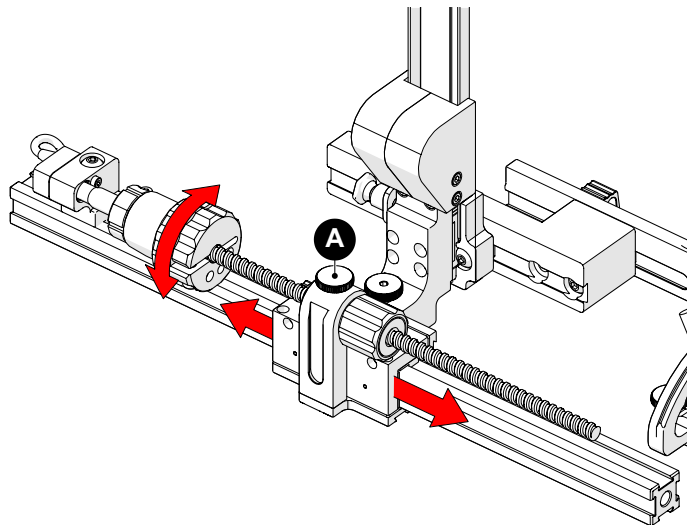

Fig. 223 - Slider positioning
5. Ensure the slider lock knob (*Fig. 223-A*) is tight and rotate the main knob to position the slider.